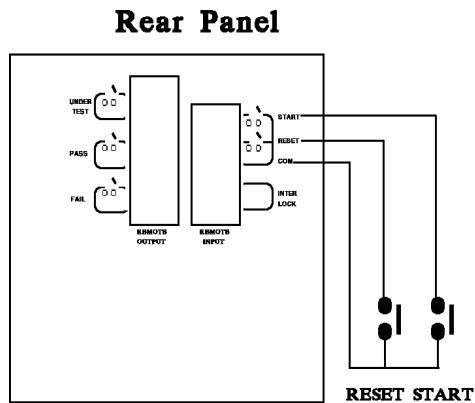
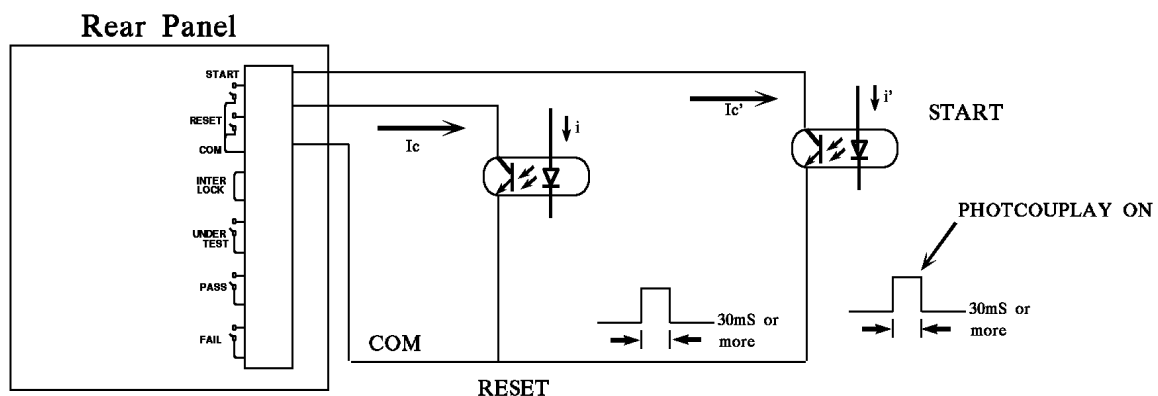

Figure 4-5
Figure 4-7
1. If want to control START single and STOP signal can refer to *figure 4-5*. As this figure described method connect to REMOTE position on front panel.
3. Some logical components such as transistor, FET, coupler. Also can be used to connect as control circuit as figure 4-7. The connecting signal and circuit as figure 4-7. Only the circuit includes the following statuses, it can control the main unit.
4. The relay switch control as figure 4-5 and photo-coupler control as figure 4-7 are controlled by component contact. It is effective to avoid error operation system cause by interference. Although the main unit has a lot of preventions, it is necessary to be careful that interferences result from setting measurement system.